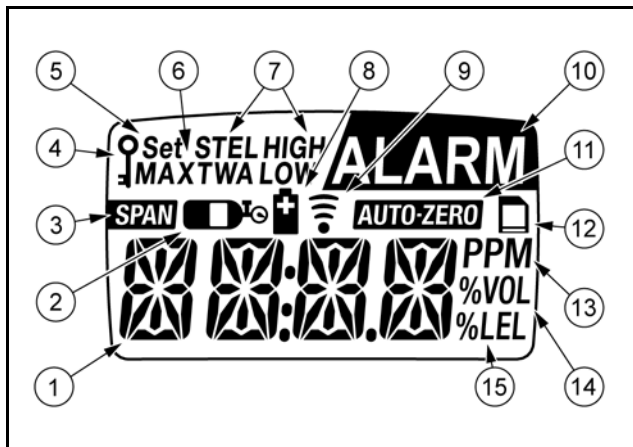

Figure 2. Display Elements
- Figure 2 and Table 4: Display Elements (describes the LCD screen and icons).